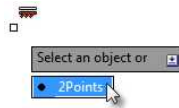

FIGURE 5.49: Selecting the 2Points option when using Dynamic Input
4. From the Select an object or [2Points]: prompt, press the down arrow to select 2Points, as shown in Figure 5.49.